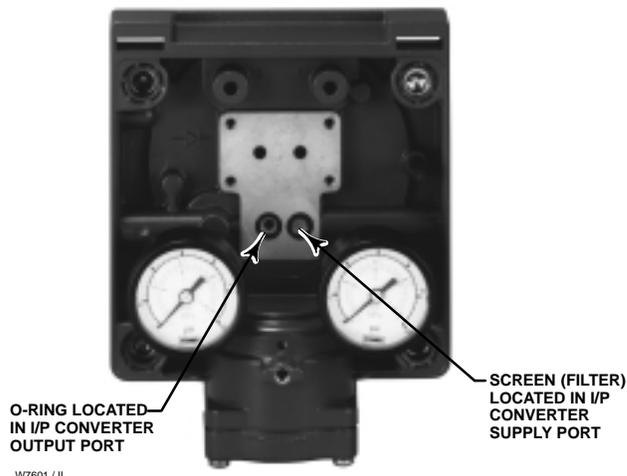

Figure 8-2. I/P Filter Location
3. Install a new screen in the supply port as shown in figure 8-2.
1. Refer to figure 8-2. Inspect the condition of the O-ring and screen in the module base. Replace them, if necessary. Apply sealant to the O-rings.